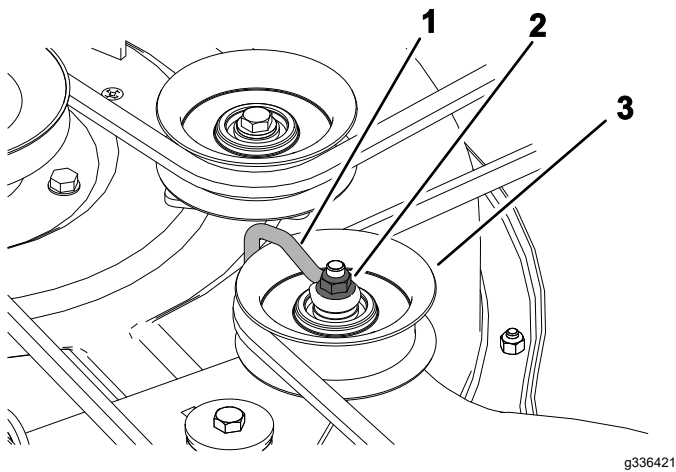

**Figure 55**
5. Loosen the screws and remove the pulley covers (Figure 55).